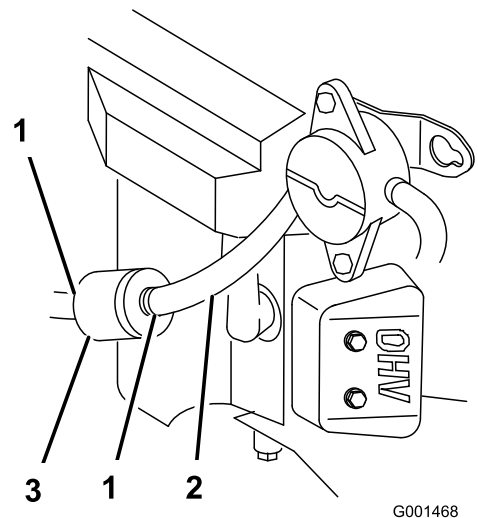

Figure 34
5. Close the fuel shutoff valve (Figure 34).
6. Squeeze the ends of the hose clamps together and slide them away from the filter (Figure 34).
8. Install a new filter and move the hose clamps close to the filter (Figure 34).
3. Close the fuel shutoff valve (Figure 34).
4. Loosen the hose clamp at the fuel filter and slide it up the fuel line away from the fuel filter (Figure 34).
5. Disconnect the fuel line from the fuel filter (Figure 34).
Note: Allow gasoline to drain into a fuel container can or drain pan (Figure 34).
7. Install the fuel line onto the fuel filter. Slide the hose clamp close to the fuel filter to secure the fuel line (Figure 34).